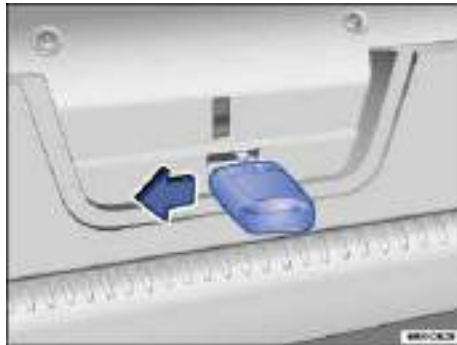

Fig. 181 Inside the luggage compartment: Opening the rear hatch.
- Insert the key into the slot on the rear hatch ⇒ fig. 181 and press the release lever in the direction of the arrow to unlock the rear hatch. At the same time, push the rear hatch out until it opens.